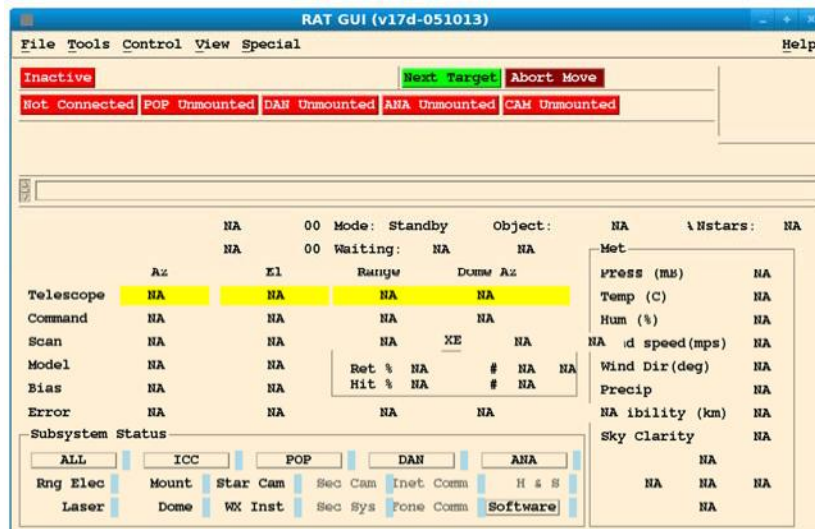

Figure 3-11: Main window for Ratgui as it appears after starting RAT
12. Log into the RAT laptop at the Operator Console using the *Technical User* account – The Ratgui software will automatically start, opening the user interface (Figure 3-11).